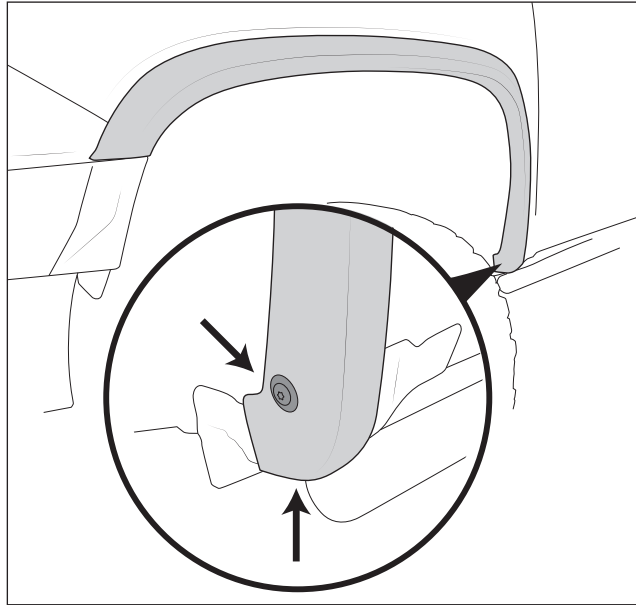

Figure 1 (ZR2 shown)
1. Remove the M4 torx bolts from inside lower wheel wells, and Push Pins from underside of flares (fig. 1).